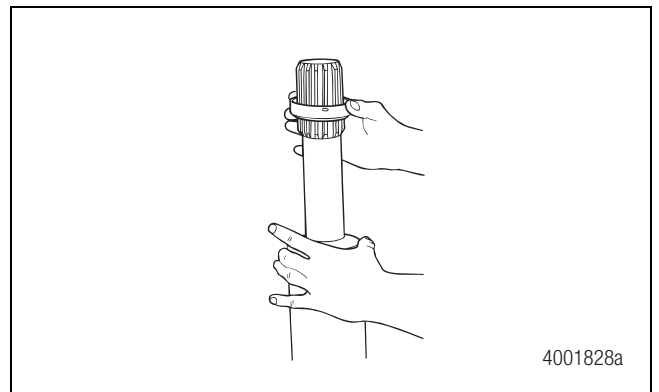

Figure 4.20
4. Install the new shroud. Figure 4.20.